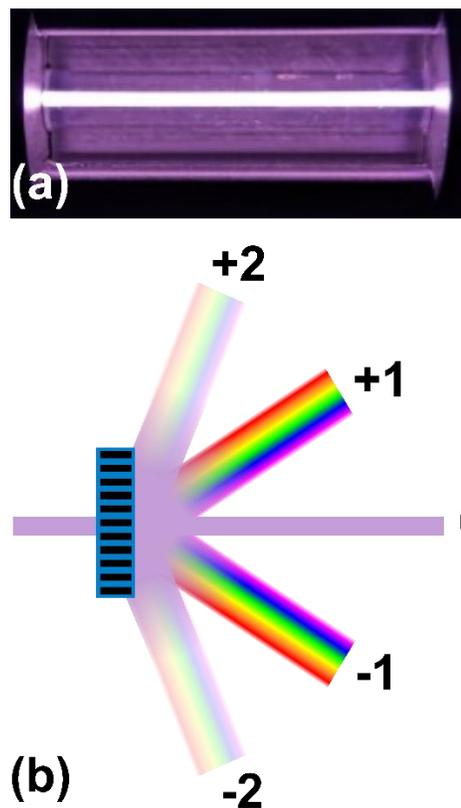

Figure 4 -- (a) A spectral tube of an unknown gas. (b) A diffraction grating separating out the fuchsia light into its constituent colors.
- 2) A slit aperture is placed at or near the focal length of the lens at (1). The purpose of the slit aperture is to improve the spatial resolution of your spectrum – by narrowing the slit, you are ensuring that the light is only coming from a single direction, preventing spectral broadening. However, the necessary drawback is that you lose light, much like the familiar apertures for a camera lens.
- 4) The diffraction grating, with its principles of operation described above in Figure 4.